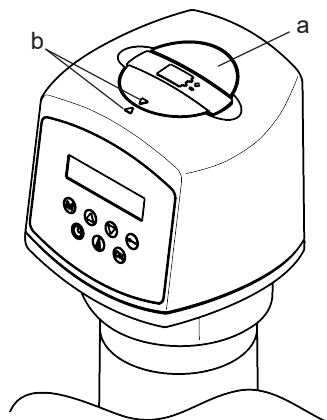

Fig. 10: Battery replacement
5. Close the battery cover. Ensure the correct position of the arrow markings (see Figure 10).